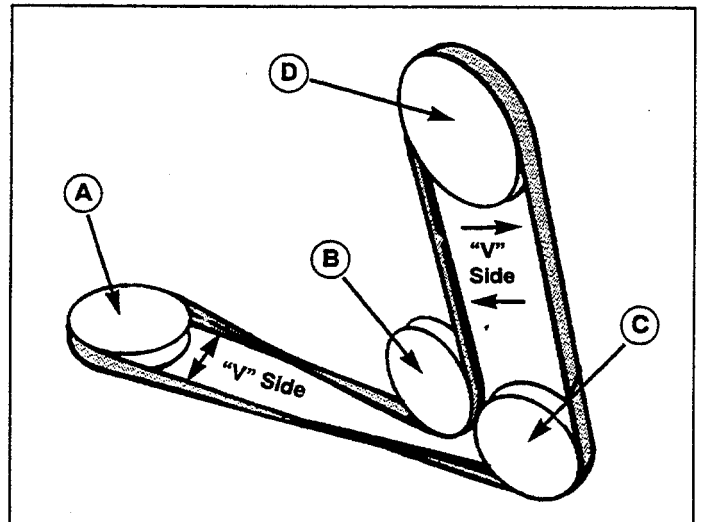

Figure 46. Belt Pattern (Seen from R.H. Side)
- See figure 46. Place the new belt onto the engine pulley (A), fixed pulley (B) and idler pulley (C). Note that the V side of belt rides in the pulley grooves and the flat side rides against the fixed pulley (B). The belt turns 90° between engine pulley and the fixed pulley (B), and between engine pulley and idler pulley (C).
- Pull belt up from top and place onto the transmission pulley (D, figure 46)